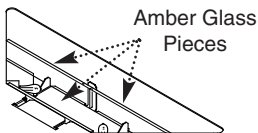

Fig. 43
5. Remove the glass retaining assembly (Fig. 43).